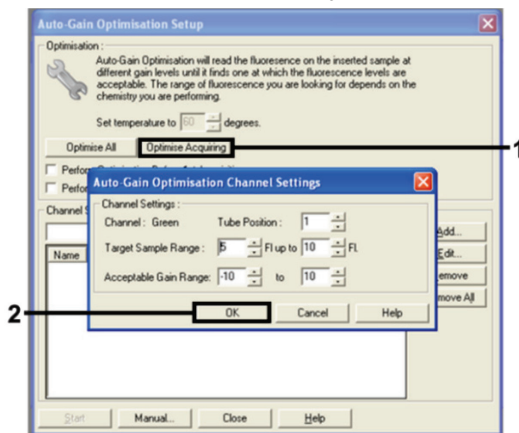

Figure 11. Auto-gain optimization for the Green channel.
13. Click **Optimise Acquiring**. Channel settings are displayed for each channel. Click **OK** to accept these default values for both channels. (Figure 11).